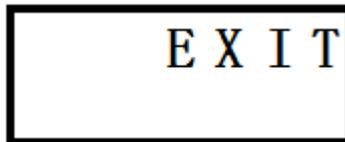
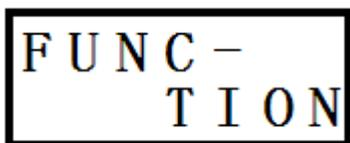
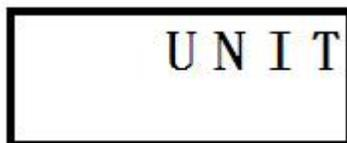

Figure9
Figure10
Figure11
2.1 In the state when the menu is not started, enter "Confirm" , the menu will be started, as shown in Figure 9:
2.2 In the state shown in Figure 9, enter "Confirm" key to exit the menu, menu state return to initial state.
3.1 Enter "Left" display the menu items from lower to upper circular when the screen displays as shown in Figure 9, enter "Left" once, as shown in Figure 10. Enter "Left" once again, as shown in Figure 11.
3.2 Enter "Right" display the menu items from lower to upper circular when the screen displays as shown in Figure 9, enter "Right" once, as shown in Figure 12. Enter "Right" once again, as shown in Figure 13.
5.1.1 Enter "Confirm" once to start menu, as shown in Figure 9;
5.1.2 Enter "Left" twice or "Right" ten times, as shown in Figure 11;
5.1.6 Enter "Confirm" once to clear message and menu state return to initial state, as shown in Figure 11;
5.1.7 Enter "Left" ten times or "Right" twice, as shown in Figure9;
5.2.1 Enter "Confirm" once to start menu, as shown in Figure 9;
5.2.11 Enter "Left" eight times or "Right" four times (menu browse), as shown in Figure 9;
1.1 Enter "Confirm" once to start menu when menu doesn't start, then the screen displays as shown in Figure9;
1.2 In the State as shown in Figure 9, enter "Confirm" once to exit the menu.